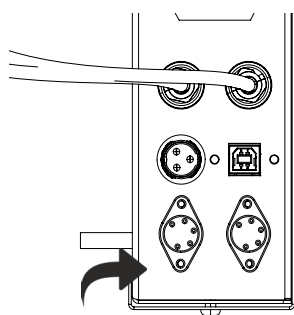

Fig. 12 : Connection Guide
- Then, plug in the stirrer aviation to the unit following the instructions in figure 12.